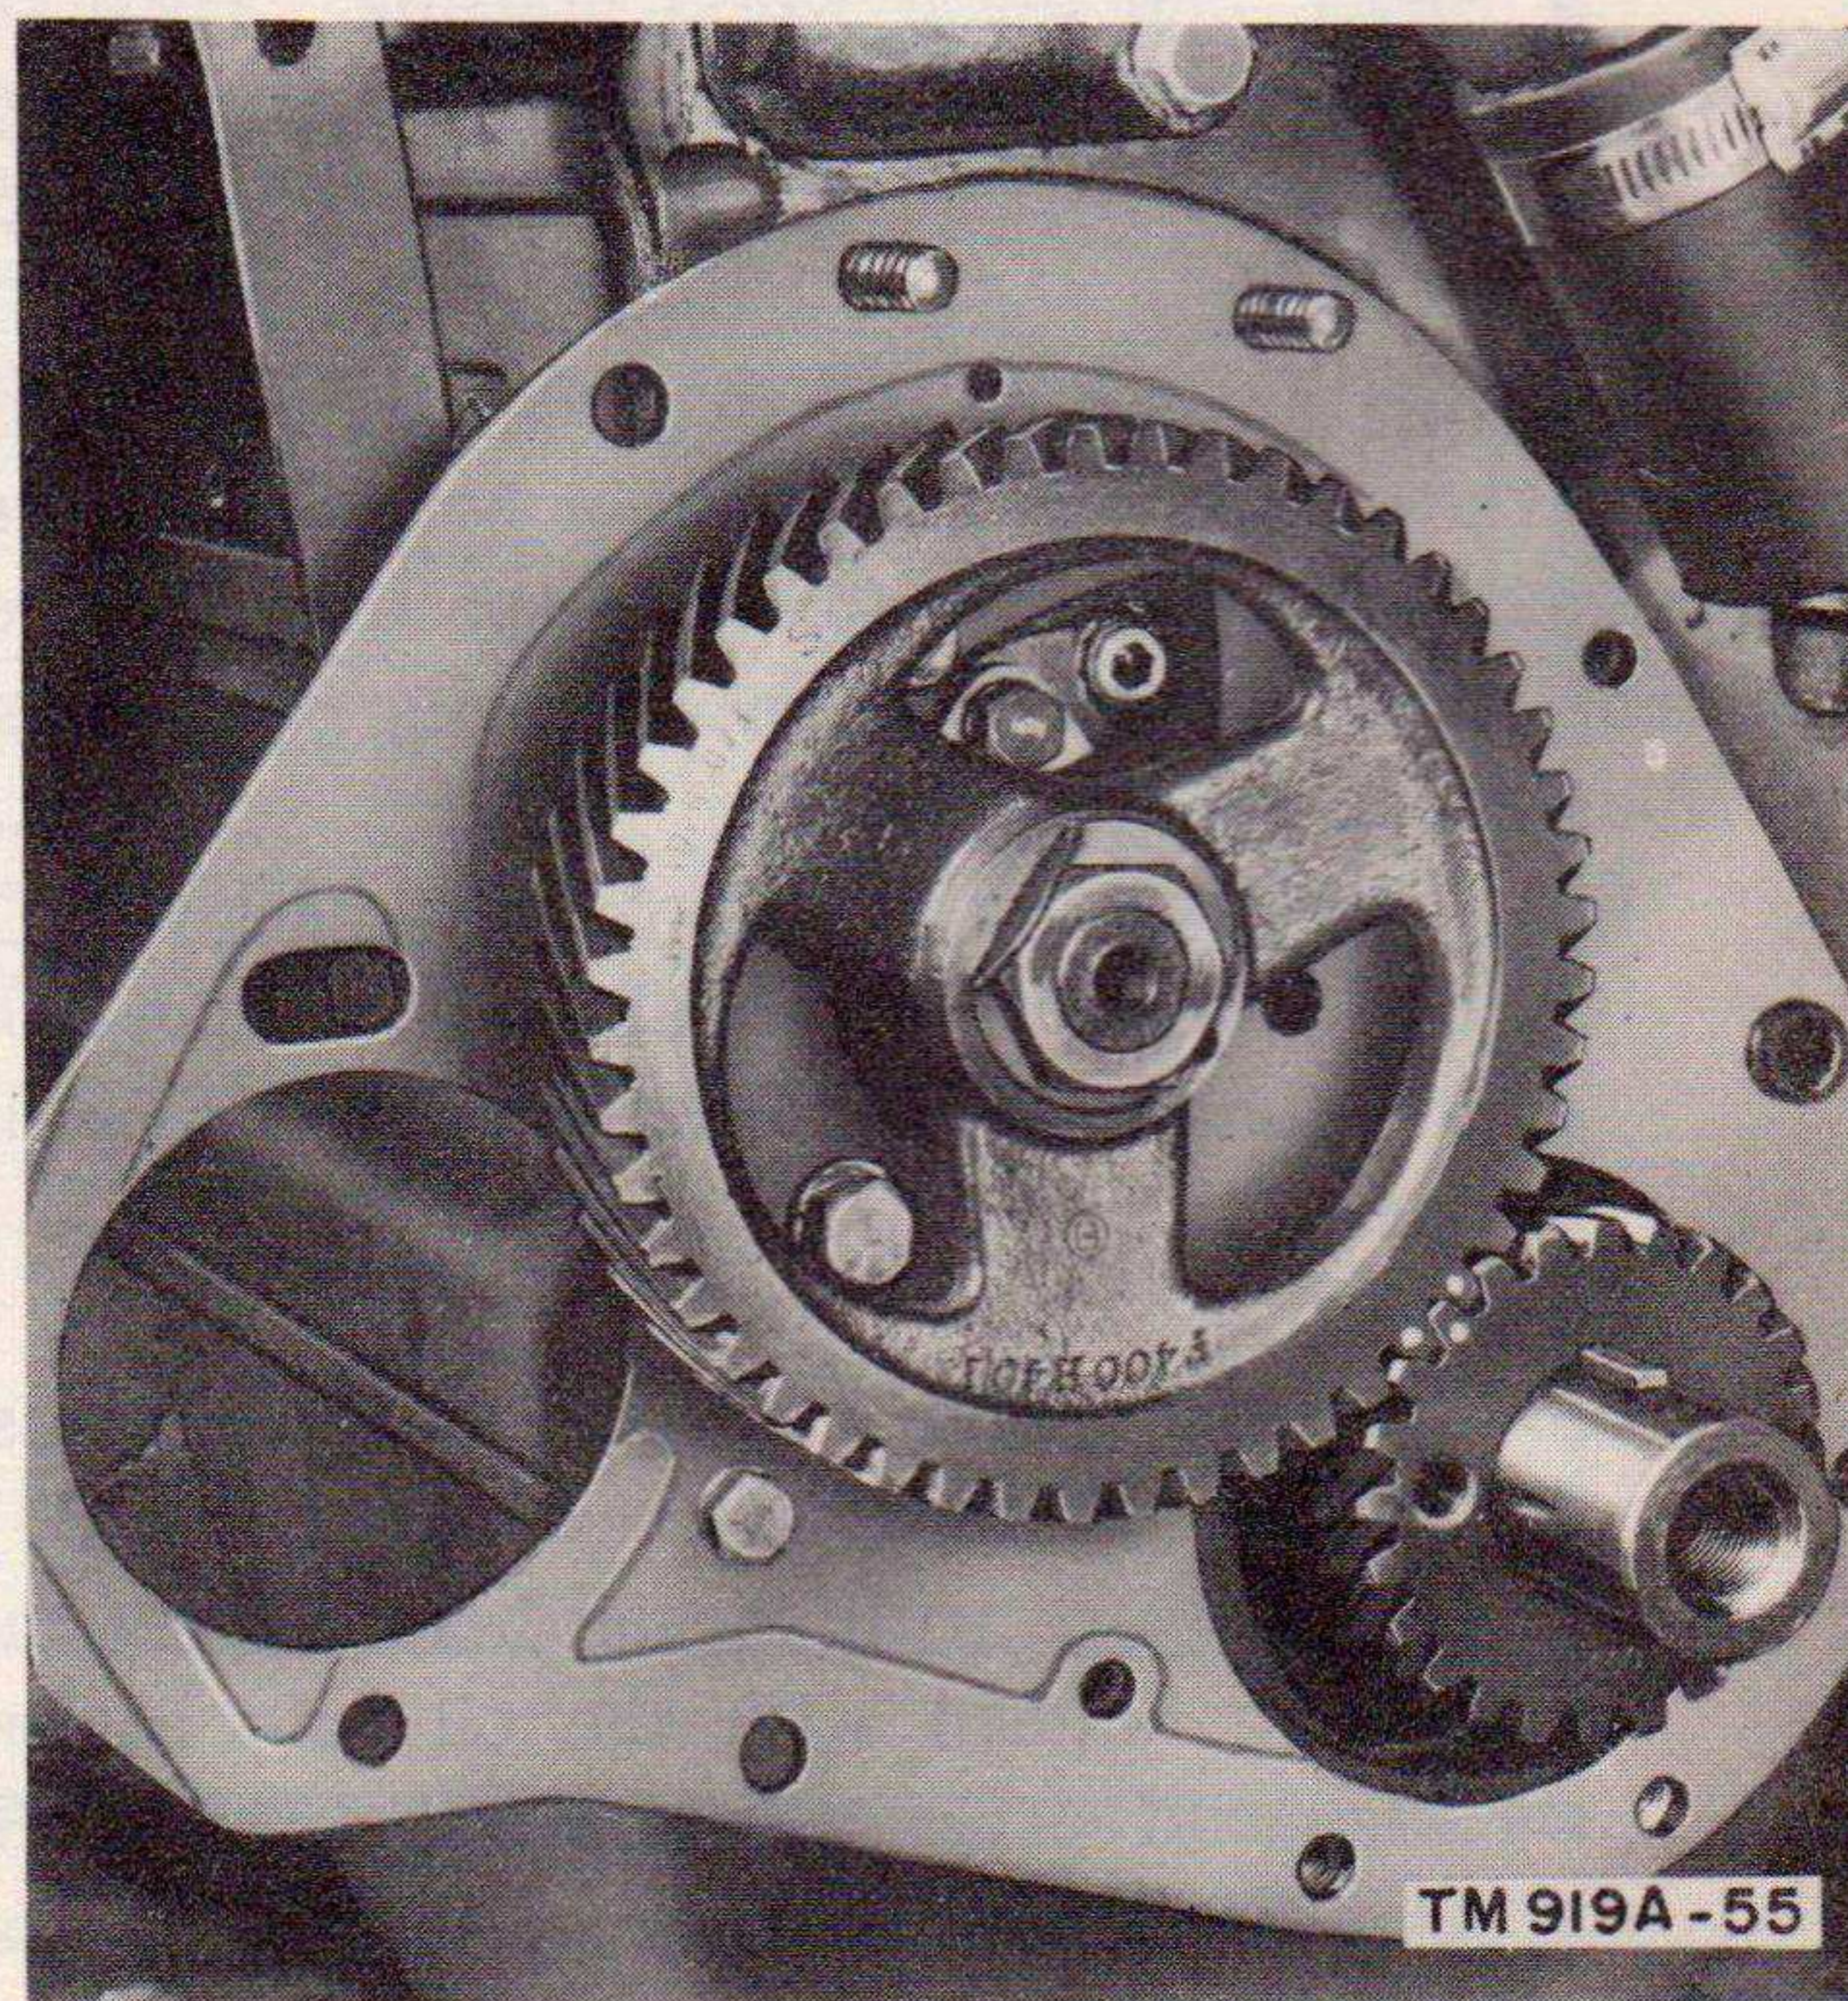

Figure 55. Aligning timing gear marks.
- (3) Install the camshaft (61) in the block and check the bearing clearance as instructed in paragraph 60l(12). Then secure the shaft with the thrust plate (63), screw, and lock washer assemblies.
- (4) Position the key (62) in the camshaft keyway. Install the gear (60) with the camshaft and crankshaft positioned so that the timing gear marks are in alignment as shown in figure 55. Install the lock washer and nut that secure the gear to the camshaft.
- (5) Check the end play of the camshaft with a feeler gage inserted between the camshaft